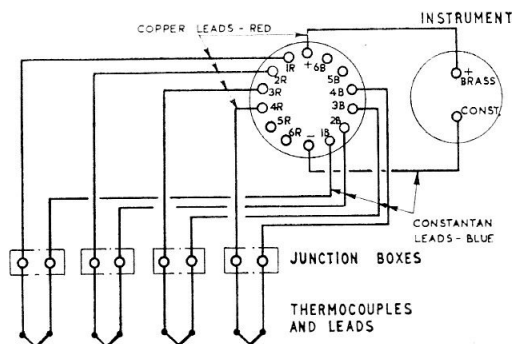

Fig. 3. Connections for use with thermocouples
4. When used in thermocouple circuits, connections should be as shown in fig. 3. Copper leads may be used between the switch and indicator when the instrument and switch are mounted next to one another and are